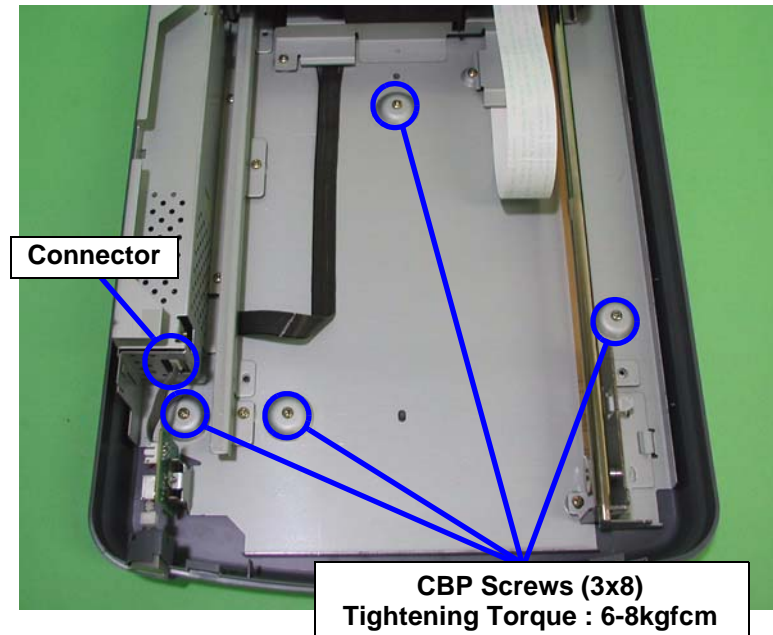

Figure 4-28. SUB_A Circuit Board Removal (1)
4. Remove the four screws (CBP, M3x8) from the base frame. (See Figure 4-28)
5. Disconnect the connector (CN102) from the power supply circuit board. (See Figure 4-28)